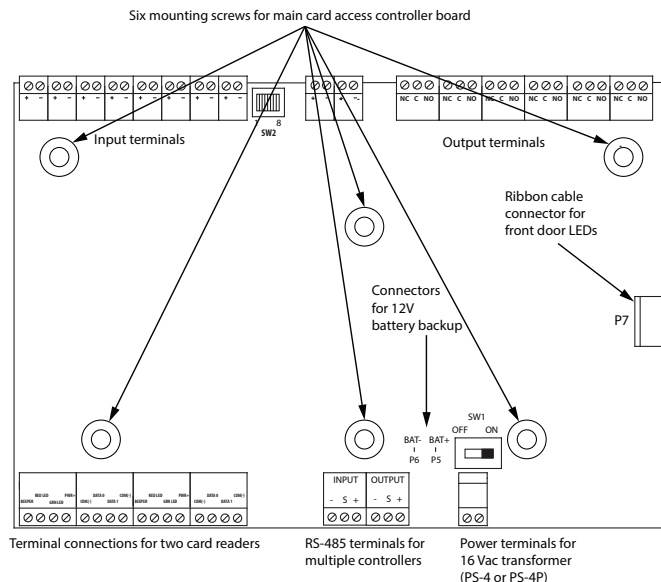

Figure 1 Controller board mounting holes
2. Turn off the current main controller board (see SW1 in Figure 1).
2. Turn off the current all controller boards (see SW1 in Figure 1).